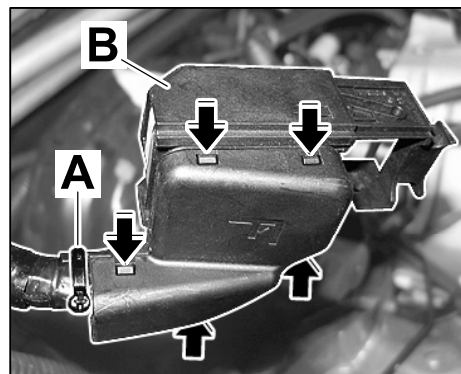

Figure 18
- 4.4.1 Remove tie-wrap ⇒ *Figure 18 -A-*. Open the locks ⇒ *Figure 18 -arrows-* and remove cover ⇒ *Figure 18 -B-* on connector.